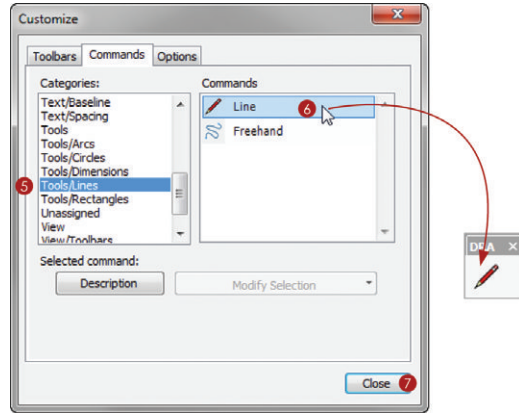

Figure 11.8 The Commands tab
4. Click on the Commands tab (Figure 11.8).